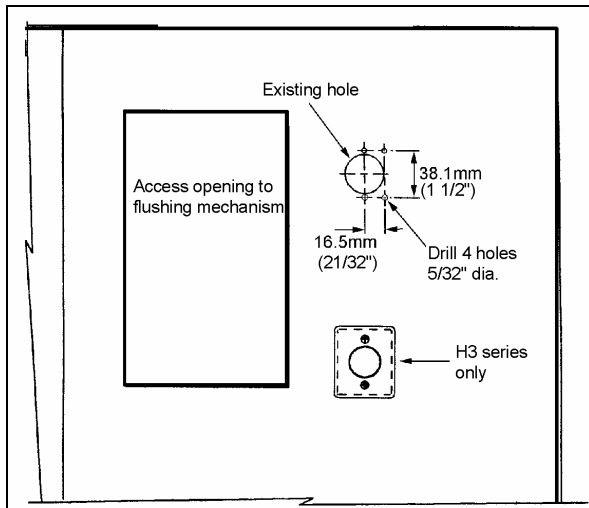

FIGURE 3 : DRILL 4 HOLES
2. Drill 4 holes as shown on figure 3.